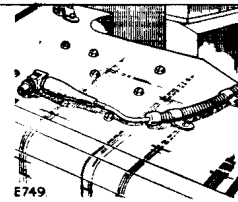
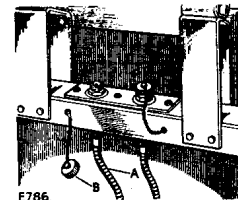
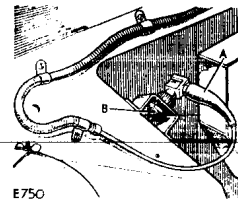

Fig. 110. Aerial co-axials removed from dummy socket and located on front wing
Fig. 111. Aerial co-axials in rear body
Fig. 112. Aerial co-axial and dummy socket on wing valance
281. Two connector co-axials (Fig. 110) are fitted to the vehicle to connect the ATU to the appropriate radio set. The rear end of the connectors (Fig. 111(A)) are stowed vertically at the centre of the driver's compartment seat rest adjacent to the location of the VHF sets. Captive screw caps (Fig. 111(B)) are provided to protect the ends of the connectors when disconnected. The sockets on the front end of the connectors fit on dummy plugs (Fig. 112) fitted to the inside of the wing valance beneath the engine bonnet.
- (1) Unscrew the locking ring securing the connector socket to the dummy plug and withdraw the socket. See Fig. 112.